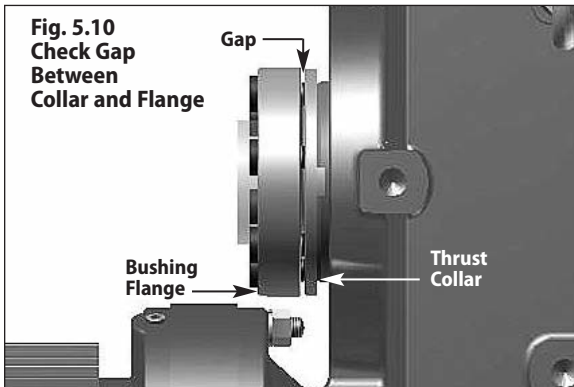

Fig. 5.10 Check Gap Between Collar and Flange
**Step 3** – Check the Taper-Grip® Bushing to assure that there is a gap between the thrust collar and the bushing flange. If no gap exists, unit removal may be difficult (see Fig 5.10).